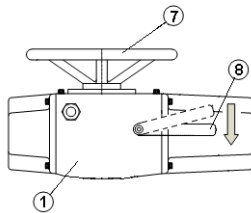

Figure 5.2: Manual operation
In order to operate the system manually by means of the handwheel (7), the lever (8) must be moved downwards, as shown in Figure 5.2.
Figure 5.2 legend: